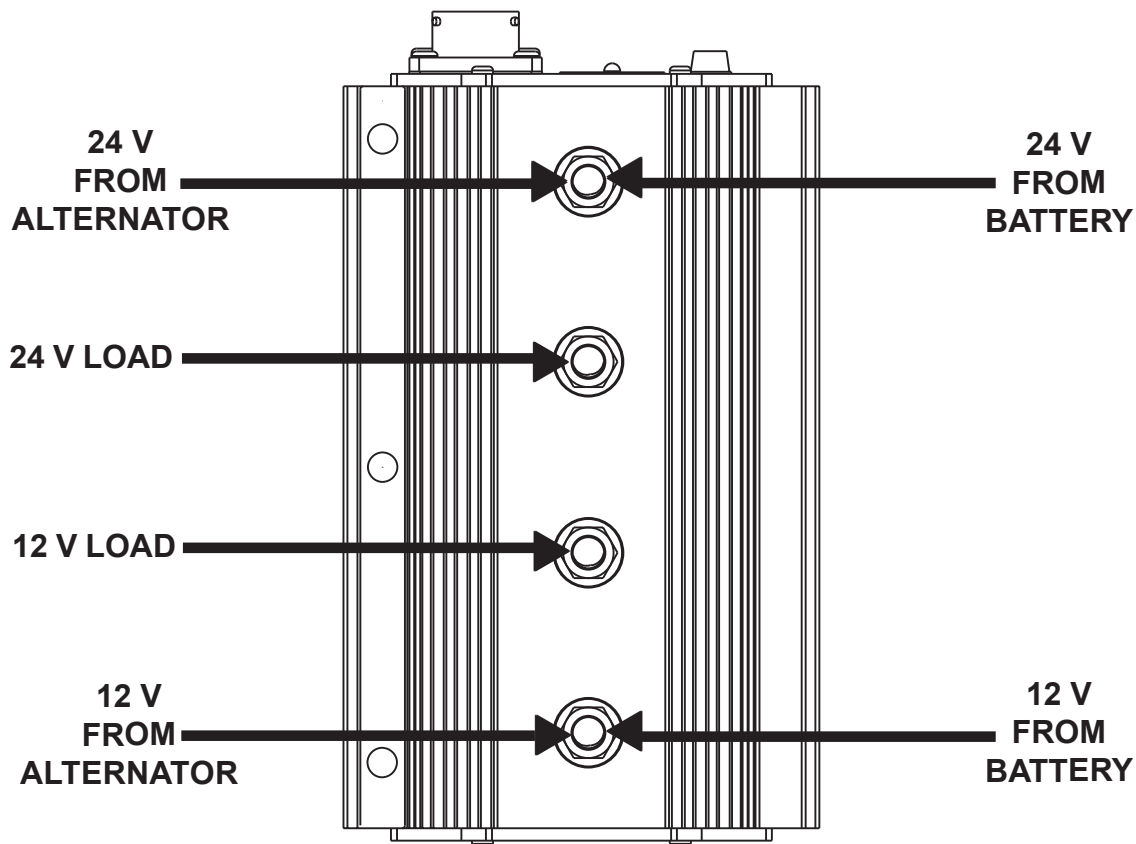

Figure 1 - Cable Arrangement (See Wiring Diagram on Page 2)
2. Jam nuts must be in position and tightened to specifications before installing remaining cables and hardware. Connect cables as shown in Figures 1 and 2 in proper stacking order. Hold jam nuts with 19mm wrench while tightening the 8mm clamping hex nuts to specifications shown in Figure 2.